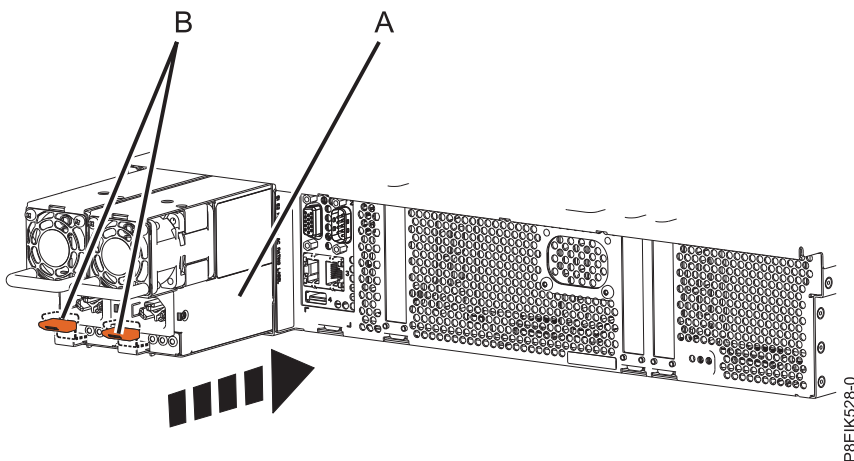

Figure 46. Replacing a power supply in the system
2. Align the power supply (A) with the bay and slide the power supply into the system until the terracotta latch (B) locks in place. See Figure 46.